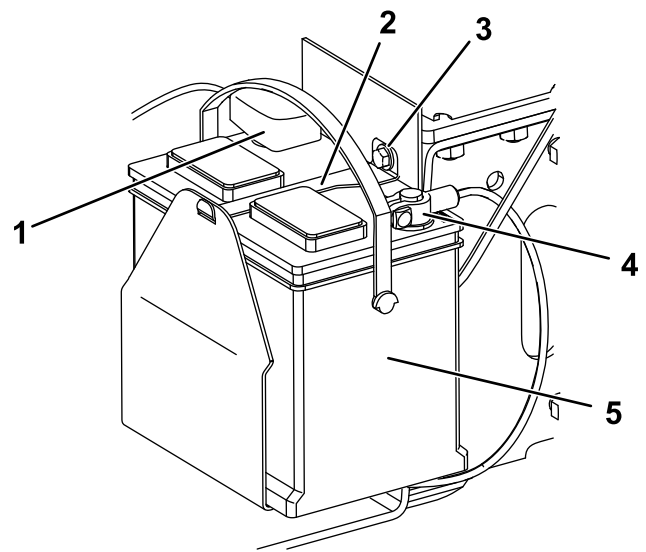

Figure 38
1. Bolt (3)
5. Remove the bolt, washer, and bar securing the battery (Figure 38).
6. Disconnect the negative (black) ground cable from the battery post (Figure 38). Retain the fasteners.
8. Disconnect the positive (red) cable from the battery post (Figure 38). Retain the fasteners.
- Using the fasteners previously removed, install the positive (red) battery cable to the positive (+) battery terminal (Figure 38).
- Using the fasteners previously removed, install the negative (black) battery cable to the negative (-) battery terminal (Figure 38).
- Secure the battery using the bar, bolt, and washer (Figure 38).